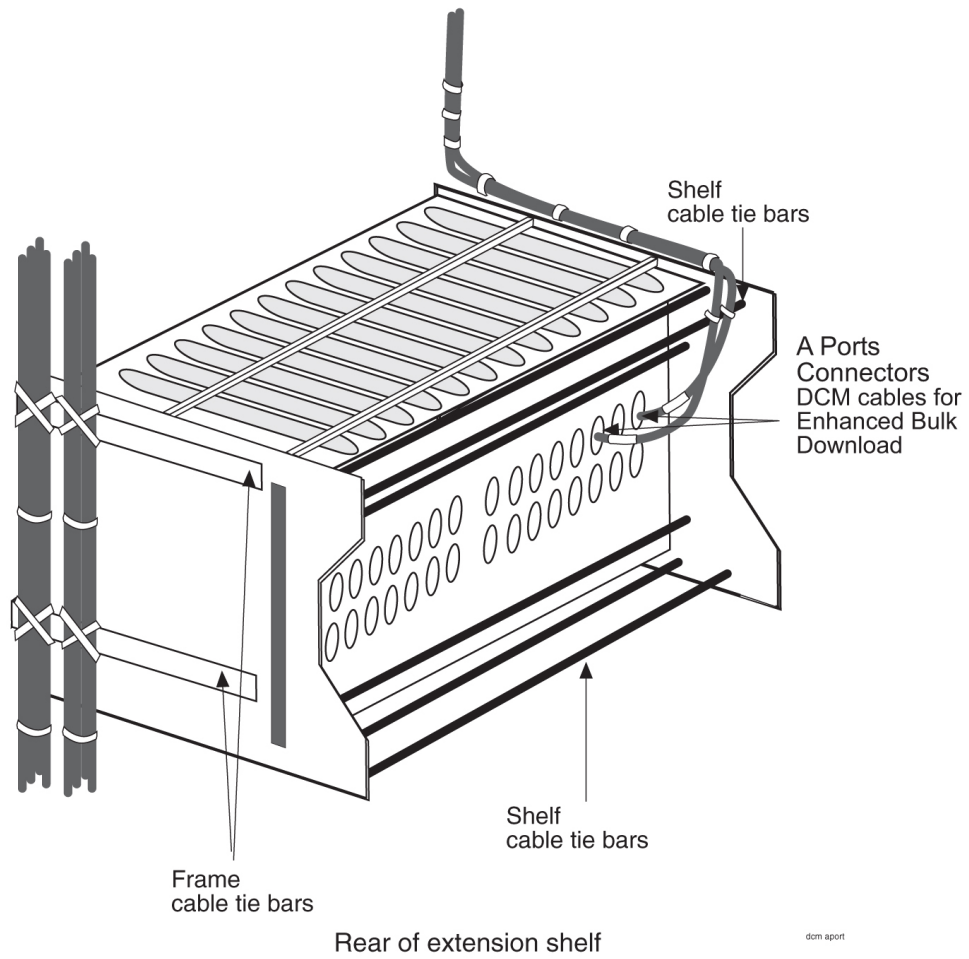

Figure 76: DCM Family Cabling, Enhanced Bulk Download
5. Route the cable around the top edge of the shelf and connect it to the A connector, of the odd numbered card slot where the DCM card is located, see Figure 76: DCM Family Cabling, Enhanced Bulk Download.